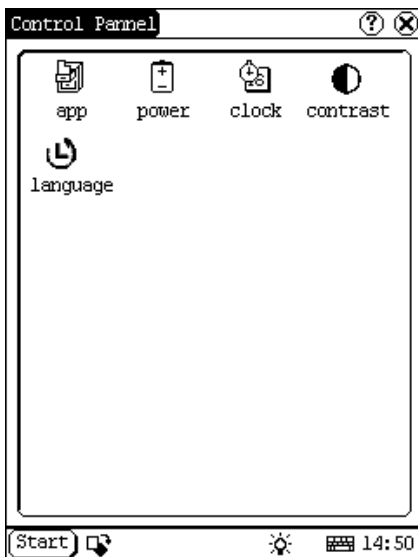

Figure 5-32
- 3) Open the Control Panel interface. (See Figure 5-32)